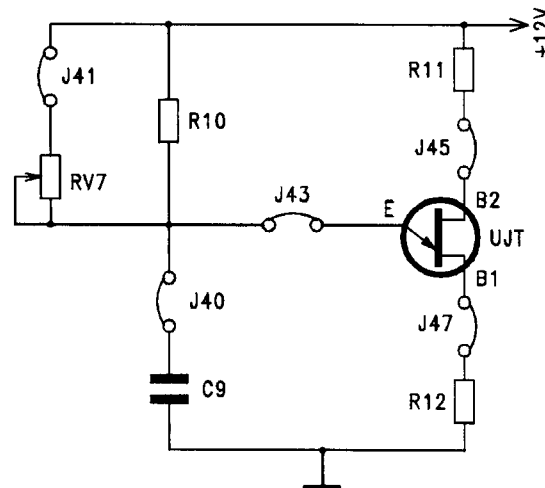

fig.B09.11
- Remove all the jumpers connected before and connect jumpers J40, J43, J45, J47 to produce the circuit of figure B09.11